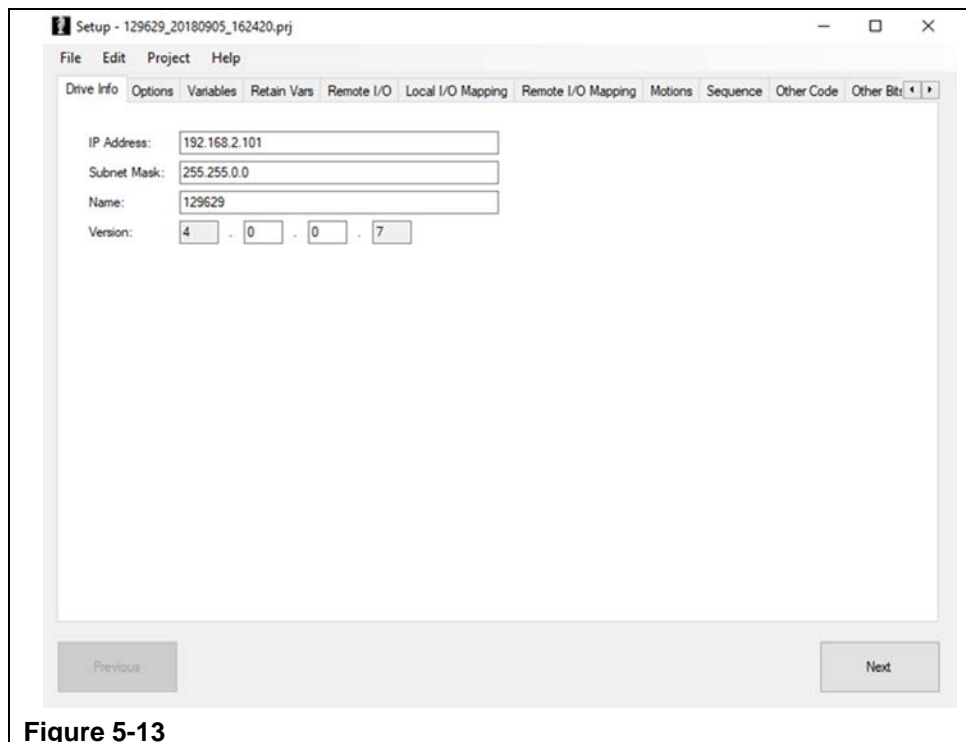

Figure 5-13
- Step 5. After the program data is downloaded to the laptop, the program will display this new information inside the 'Knight SD3 Program Editor' on the 'Drive Info' Tab. (Refer to Figure 5-13)